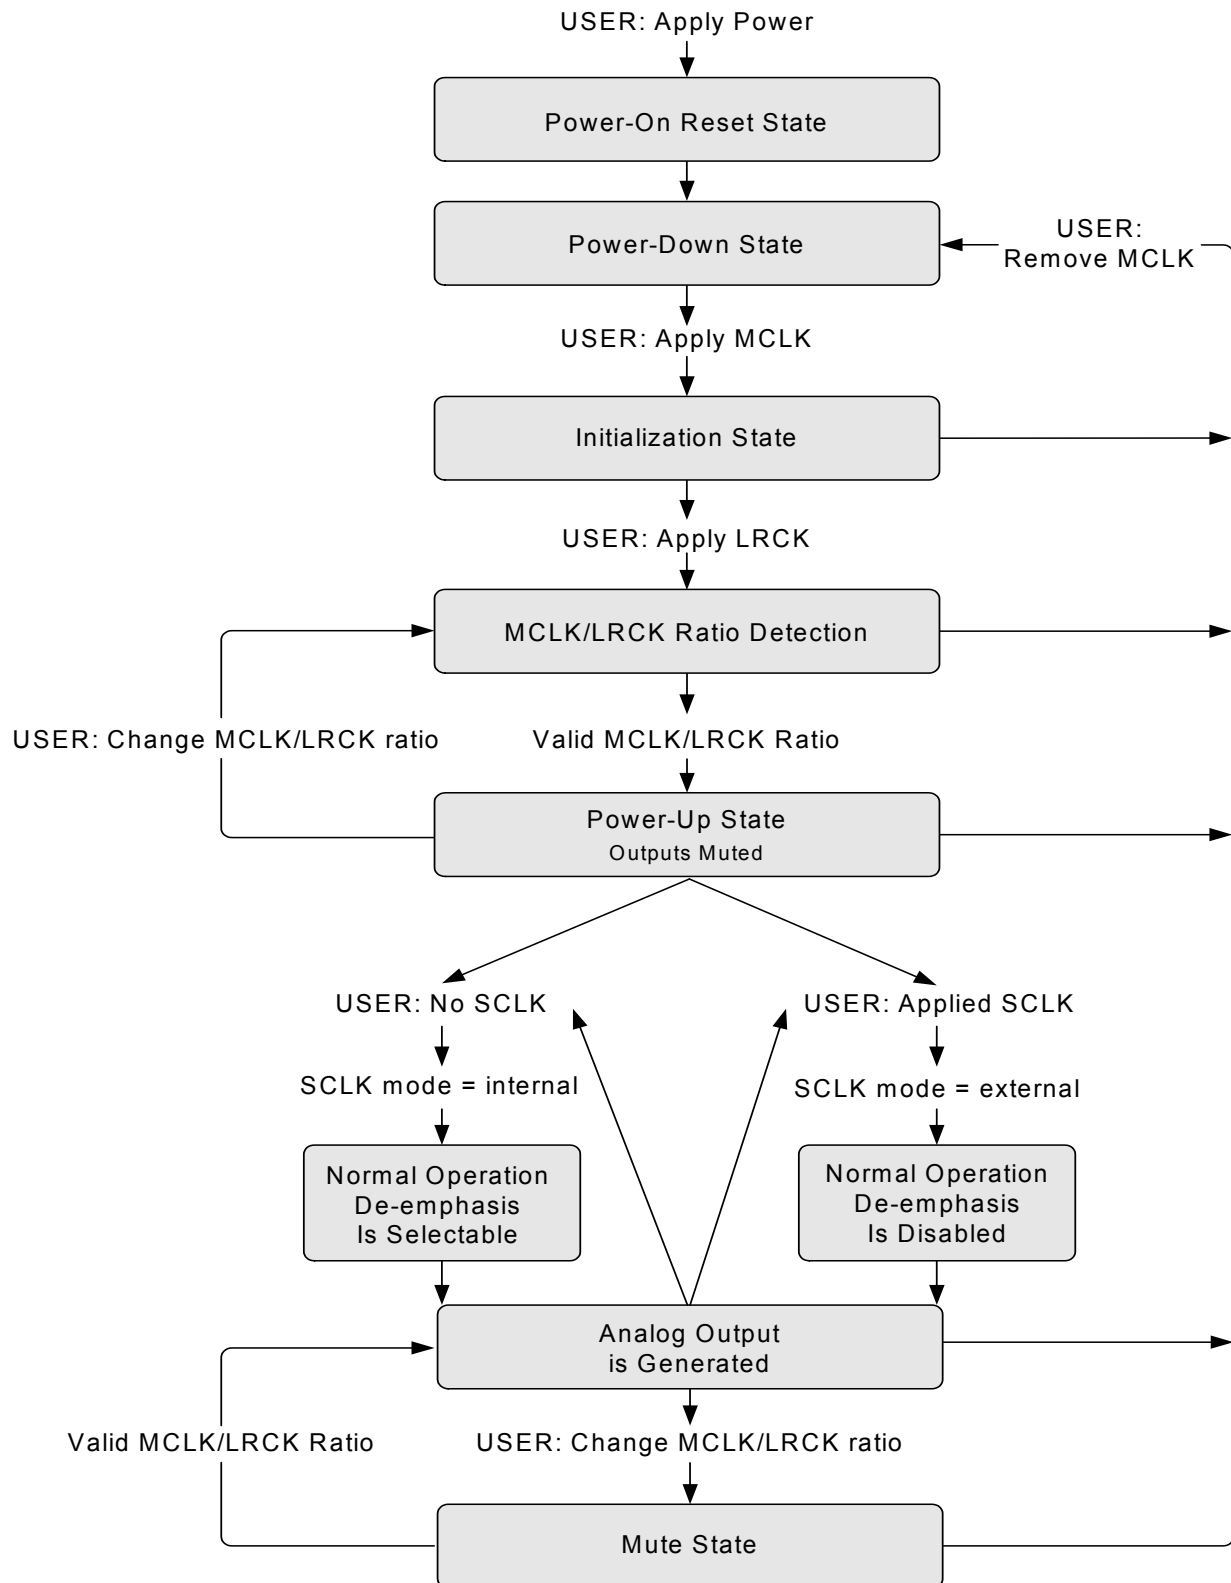

Figure 9. Initialization and Power-Down Sequence Diagram
The CS4354 operates in one of three operational modes. The device will auto-detect the correct mode when the input sample rate (F_s), defined by the LRCK frequency, falls within one of the ranges illustrated in Table 3. Sample rates outside the specified range for each mode are not supported. In addition to a valid LRCK frequency, a valid serial clock (SCLK) and master clock (MCLK) must also be applied to the device for speed mode auto-detection; see Figure 9.
The CS4354 will enter the External Serial Clock Mode when 16 low to high transitions are detected on the DEM/SCLK pin during any phase of the LRCK period. When this mode is enabled, the Internal Serial Clock Mode and de-emphasis filter are disabled (see Figure 9 for flow diagram).
The CS4354 will switch to Internal Serial Clock Mode if no low to high transitions are detected on the DEM/SCLK pin for 2 consecutive frames of LRCK (see Figure 9 for flow diagram). In the Internal Serial Clock Mode, the serial clock is internally derived and synchronous with MCLK and LRCK. The SCLK/LRCK frequency ratio is either 32, 48, or 64 depending on the speed mode and MCLK frequency. Operation in this mode is identical to operation with an external serial clock synchronized with LRCK. This mode allows access to the digital de-emphasis function. Refer to Table 5 for details (all frequencies listed as multiples of LRCK frequency).
See Figure 9 for a diagram of the device's states and transition conditions.
2. After the power supplies are stable, provide the correct MCLK, LRCK, and SCLK (only in External Serial Clock Mode) signals to progress from the 'Power-Down State' in the power-up sequence seen in Figure 9. Please refer to Section 4.4 on page 14 for common clock frequencies in the External Serial Clock Mode, and supported modes in the Internal Serial Clock Mode. The sequence will complete and audio will be output from the AOUTx pins within 50 ms after valid clocks are applied.